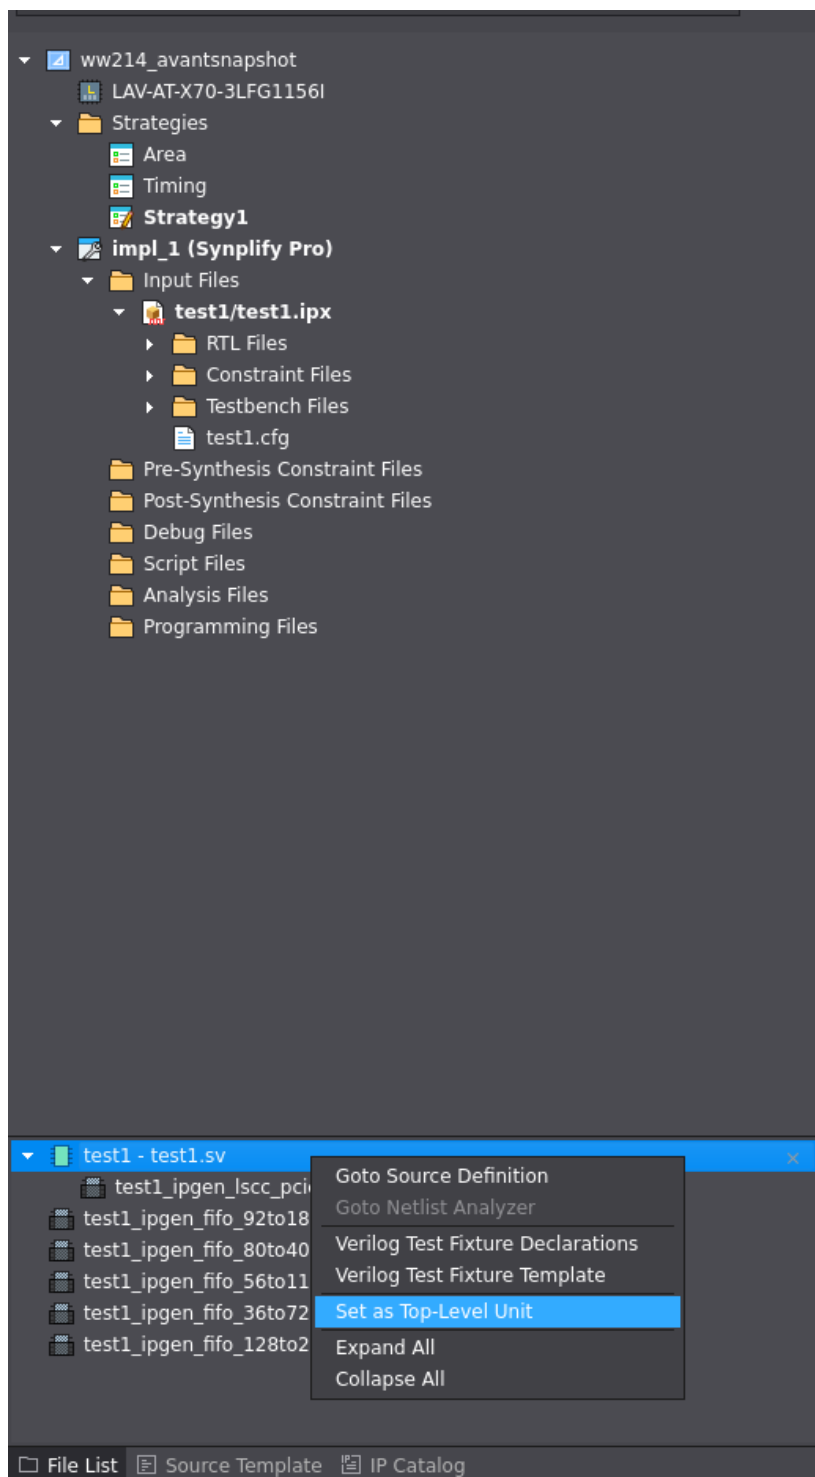

Figure 7.8. Set IP Top Level Unit
6. IP version 2.1.0 or below requires an additional step to set the IP top level. Right-click on the IP name and select *Set as Top-Level Unit* shown in Figure 7.8.